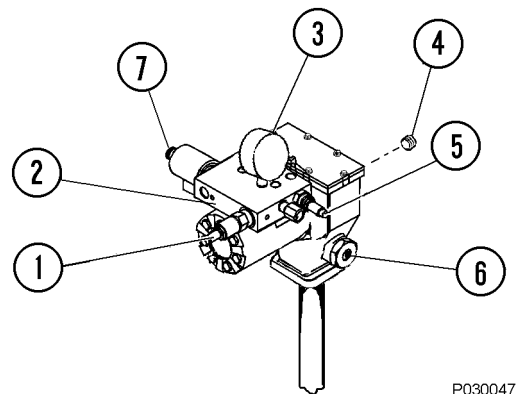

FIGURE 42-7. PUMP CONTROLS
2. To purge air from the main supply line, remove the main supply line at outlet port (6, Figure 42-7) and connect an external grease supply to the line.
The pump housing must be filled to the proper level with SAE 10W-30 motor oil. Oil level must be checked at 1000 hour intervals. To add oil, remove oil level plug (4, Figure 42-7) and fill housing to bottom of plug hole.